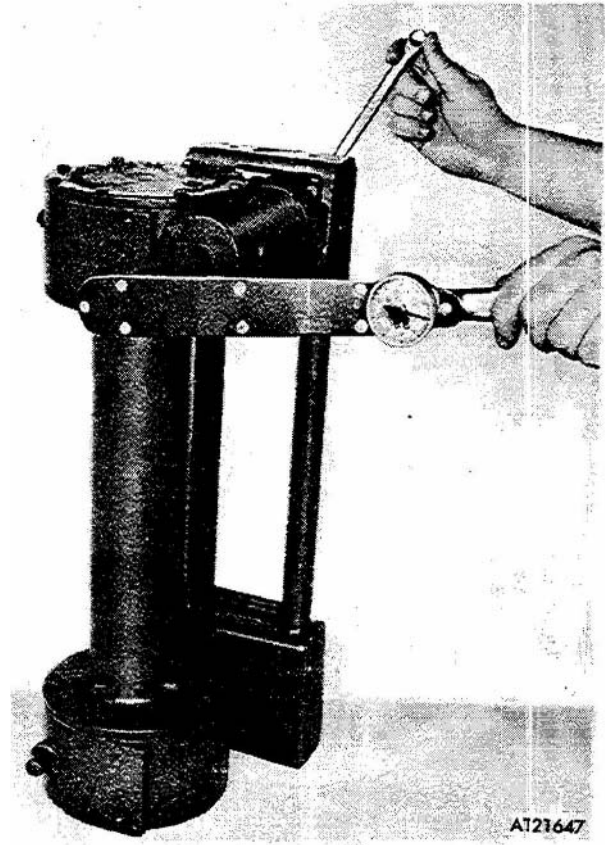

Figure 4-23. Adjusting winch safety brake.
(1) Connect an adapter and suitable foot-pound torque wrench to input worm shaft (fig 4-23) and adjust brake as indicated in (2) through (4) below.